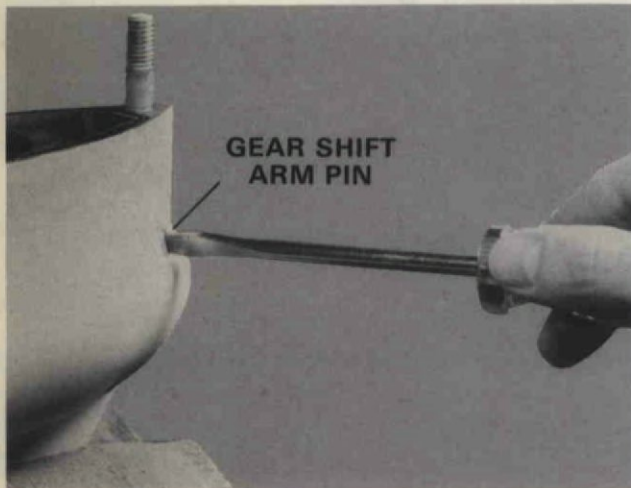

Figure 58. Removing Gear Shift Arm Pin.
A. Remove gear shift arm pin. Figure 58.